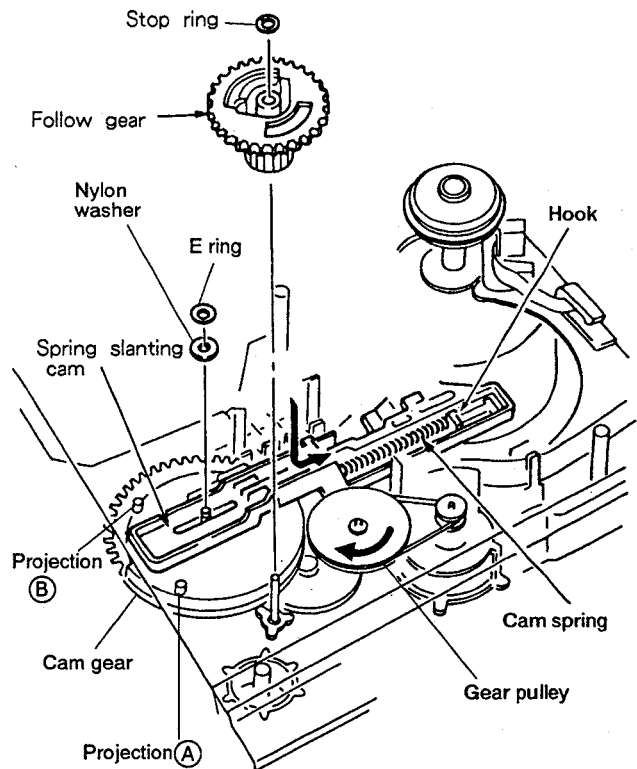

Fig. 13
③ Install a nylon washer and an E ring, and hang the cam spring on the hook. (Fig.13)
Note: The cam gear and spring slanting cam as shown in Fig.13 are positioned when installing the slide cam.
- ③ Install the stop ring. (Fig.13)
- ① Set the position of projection A and B of the cam gear by turning the gear pulley clockwise by hand as shown in Fig.13.